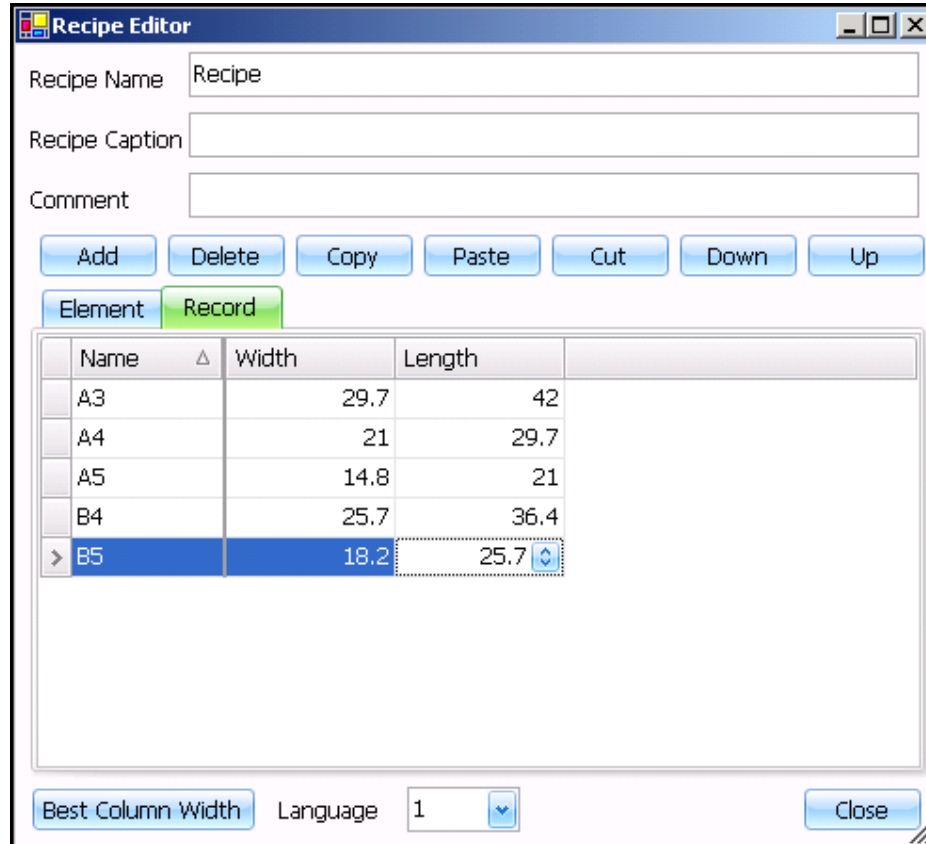

Figure 8.4.3
(3) Input the 5 record data information as figure 8.4.3 below. Click on the [Close] after finished.